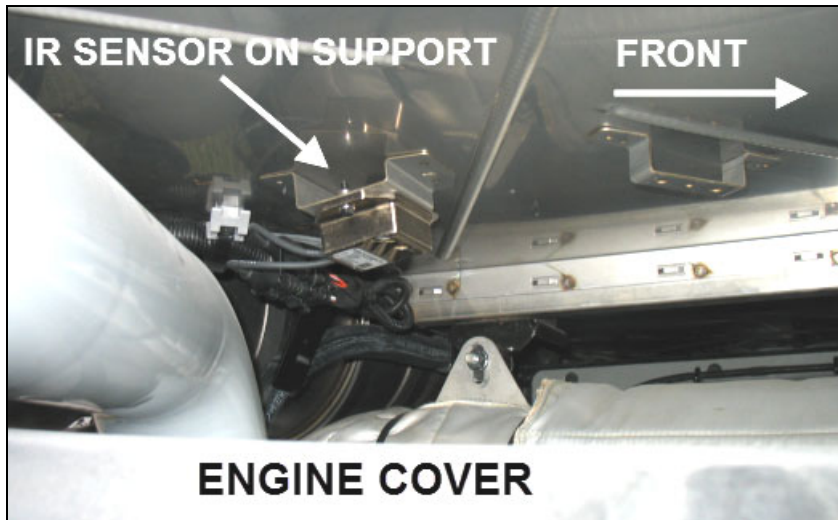

FIGURE 18
- 4) Fix IR sensor onto support as shown on FIGURE 18, using two split lock washers #502570 and two cap screws #5001146. IR sensor must be oriented so that the cables exiting the sensor body are located aft of the engine compartment.